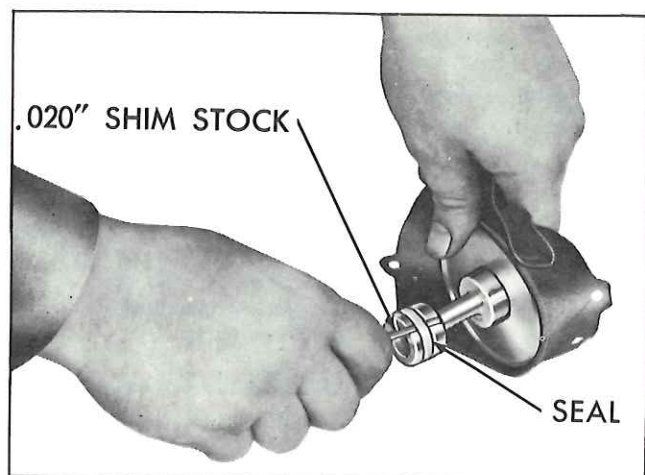

Fig. 16—Installing Seal
4. Install new seals using a piece of .020" shim stock, (fig. 16). Make sure shim stock has no sharp edges that may cut seal. Do not stretch seal more than necessary to install. Seals should be installed so they are not twisted.